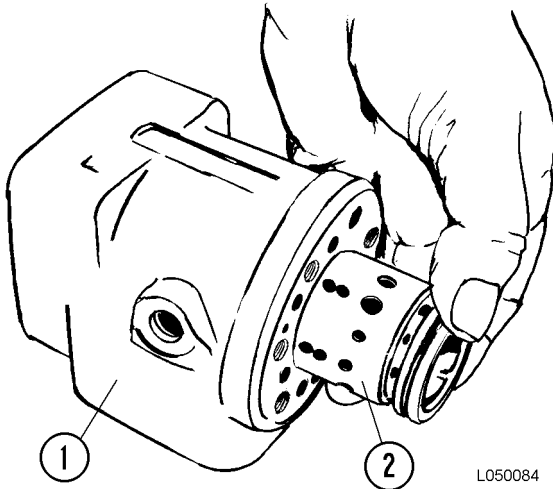

FIGURE 50-11. SPOOL INSTALLATION
11. Position the steering control unit so that housing (1, Figure 50-11) is horizontal. Slowly guide lubricated spool assembly (2) with fitted parts into the bore using light turning movements.